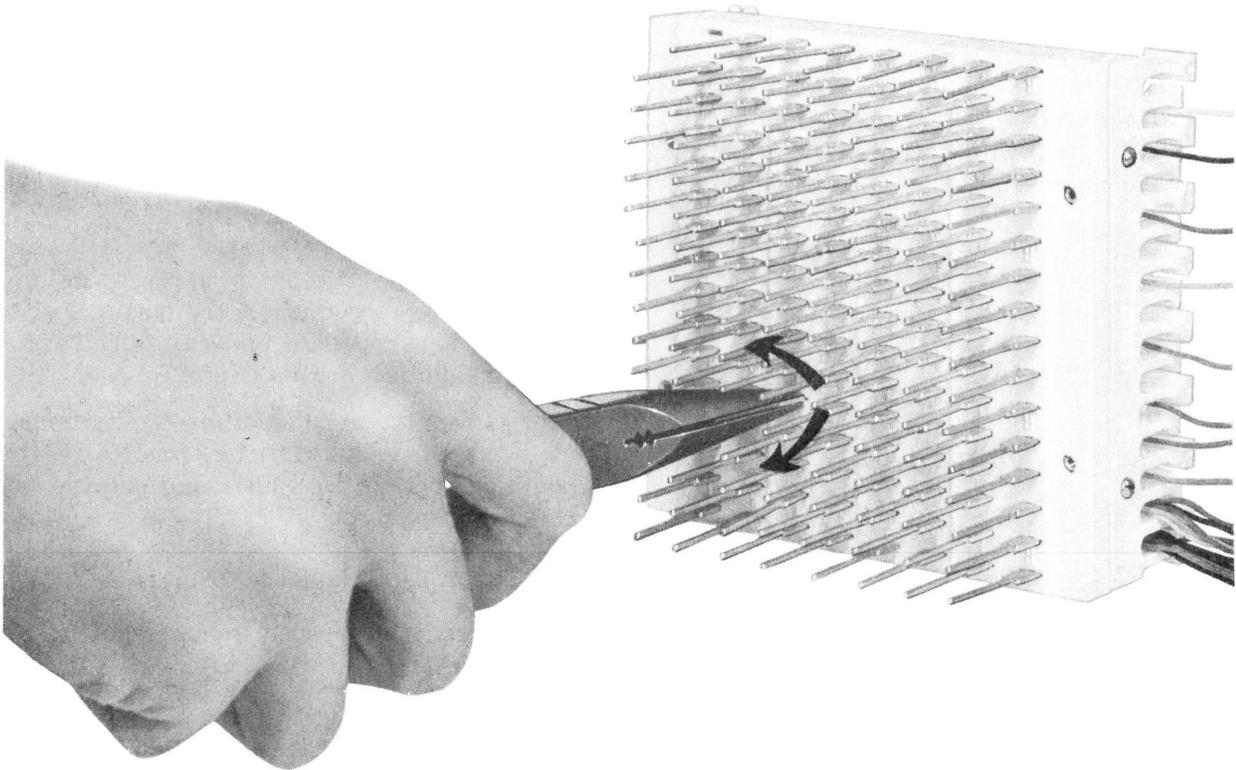

Fig. 2 — Breaking Terminal from Block
- (b) Using the P long nose pliers, grasp the wire-wrap portion of the terminal as near the block as possible and carefully twist the terminal until it breaks (Fig. 2).